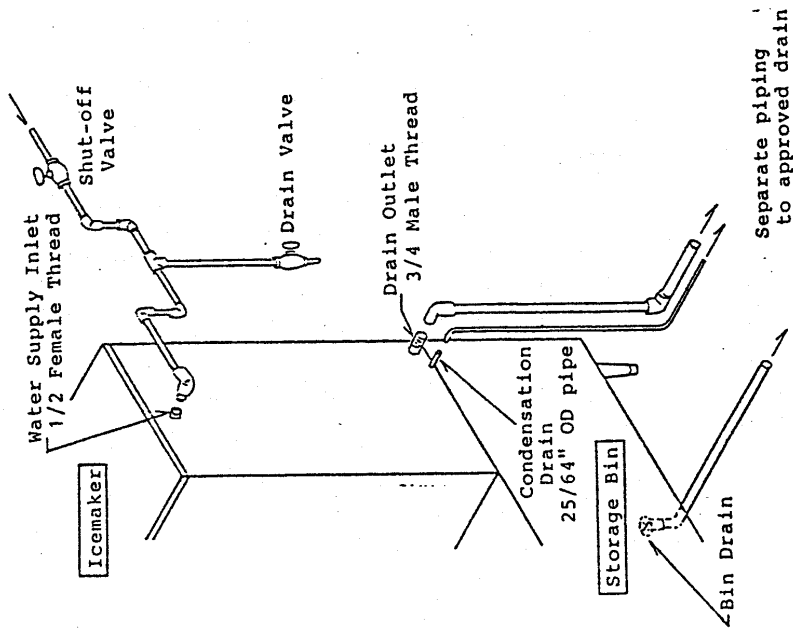

Fig. 10
5. WATER SUPPLY AND DRAIN CONNECTIONS - See Fig. 10